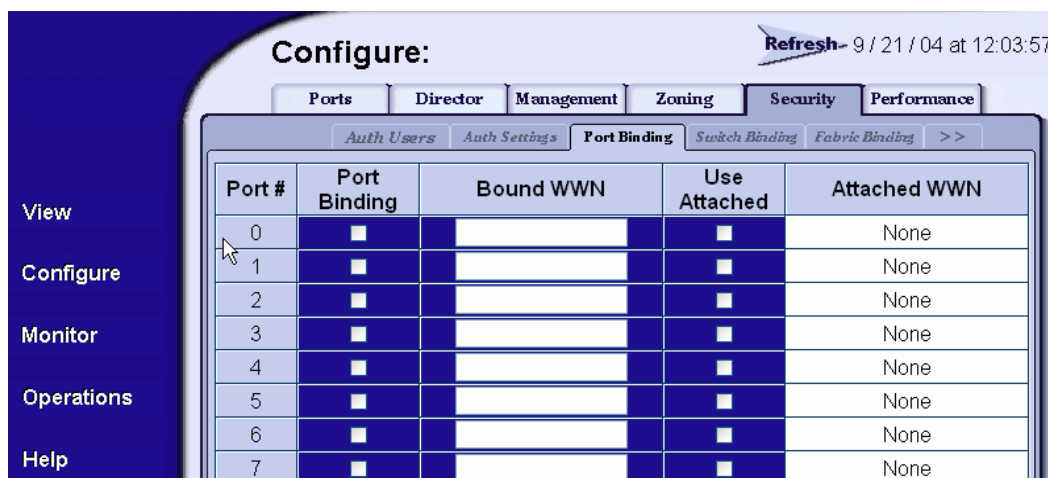

Figure 2-19 Configure Panel (Security Page with Port Binding Tab)
1. At the *Configure* panel, click the *Port Binding* tab. The *Security* page displays with the *Port Binding* tab selected (Figure 2-19).